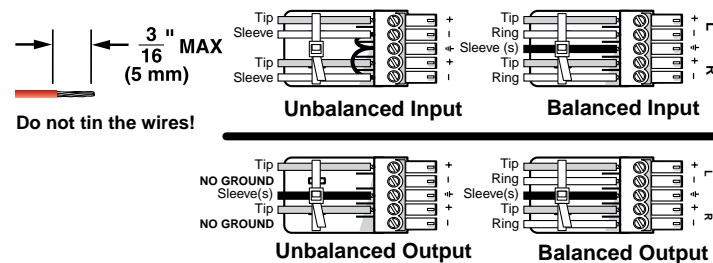

Figure 3. Audio Input Connector Wiring
- ⑧ **Balanced and unbalanced audio inputs** — Connect balanced or unbalanced stereo audio inputs to these 5-pole captive screw connectors (see figure 3 for wiring).
- ⑨ **Local audio outputs** — Connect balanced or unbalanced stereo audio output devices to these 5-pole captive screw connectors (see figure 3 for wiring).
- See figure 3 for wire stripping information.
- ⑪ **LAN port** — If desired, connect a network WAN or LAN hub, a control system, or computer to the Ethernet RJ-45 port.